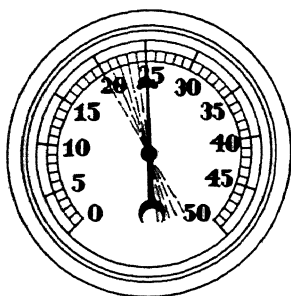

Fig. 27. Needle Motion Intermittent—Valve Sticky
**Sticky Valve.** Needle, Fig. 27, drops back intermittently whenever sticky valve or valves come into operation. To check this test, remove the vacuum-hose connection and inject penetrating oil into the manifold for temporary relief. For permanent relief install a Weidenhoff upper engine lubricator with the thermostatic control.